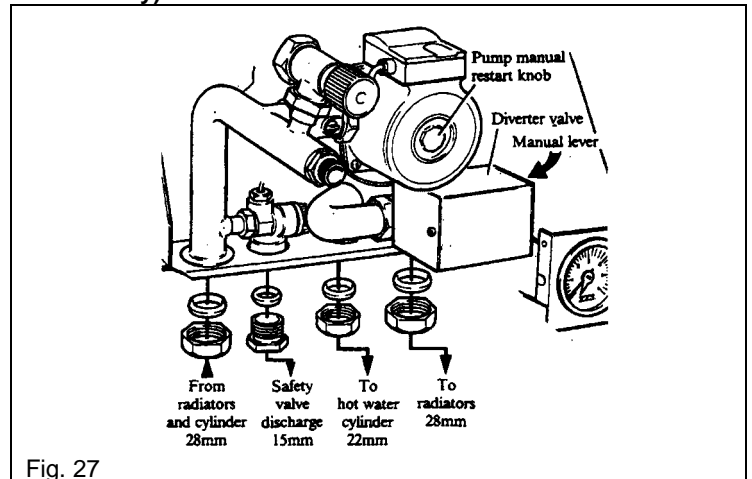

Fig. 27
Refer to Fig. 27 (expansion vessel, frame and control box omitted for clarity).
2. Make the connections as shown in Fig. 27.
Unscrew the pump manual restart knob, see Fig. 27 and withdraw it to engage in the motor shaft. Rotate the knob and check that the motor shaft rotates freely. Apply a sideways pressure to the knob until a small amount of water becomes visible. The pump is now vented. After use the manual restart knob should be screwed back into its original position, finger tight.